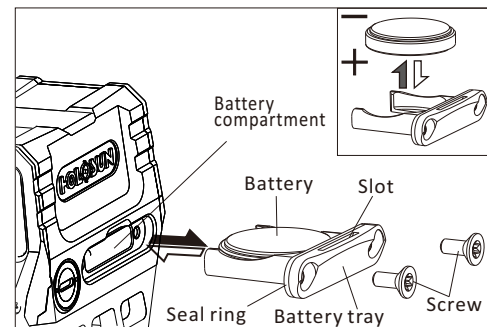

Fig 3
3. Battery Replacement (Fig3):